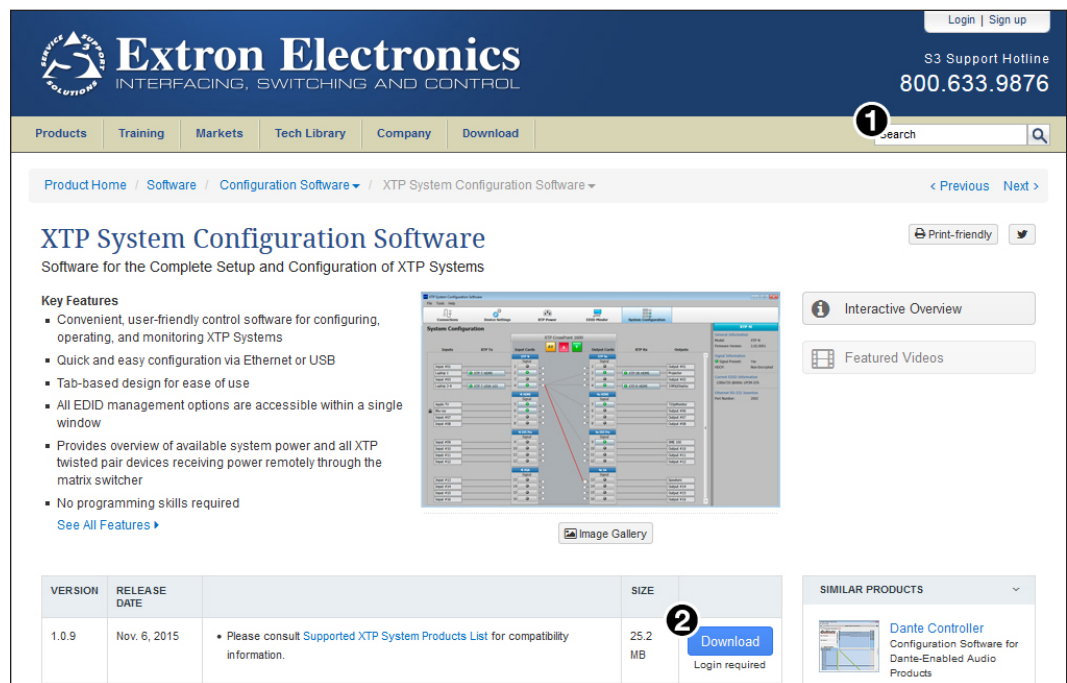

Figure 24. XTP System Configuration Software Product Page
1. In the **Search** field (see figure 24, ①) type “XTP System Configuration Software.”
3. Click the **Download** button (see figure 24, ②).